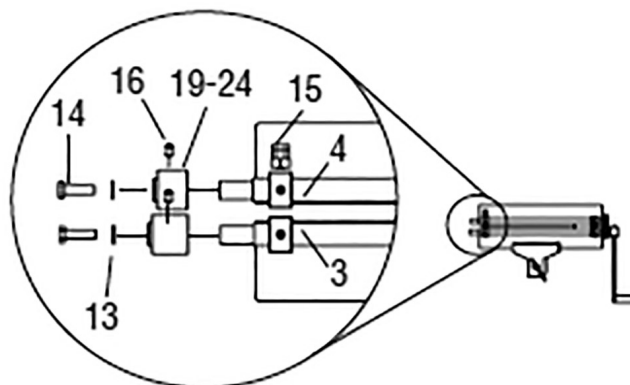

Figure 4
2. Slide both dies onto the Driving Shaft (3) and Driving Shaft (4) at the same time (see Figure 4). Ensure that the screws (16) are positioned over the flat surface on the Driving Shaft (3) and Driving Shaft (4).
3. By hand, install the two bolts (14) and washers (13). Tighten the bolts (14) with a wrench.
4. Tighten the two screws (16).